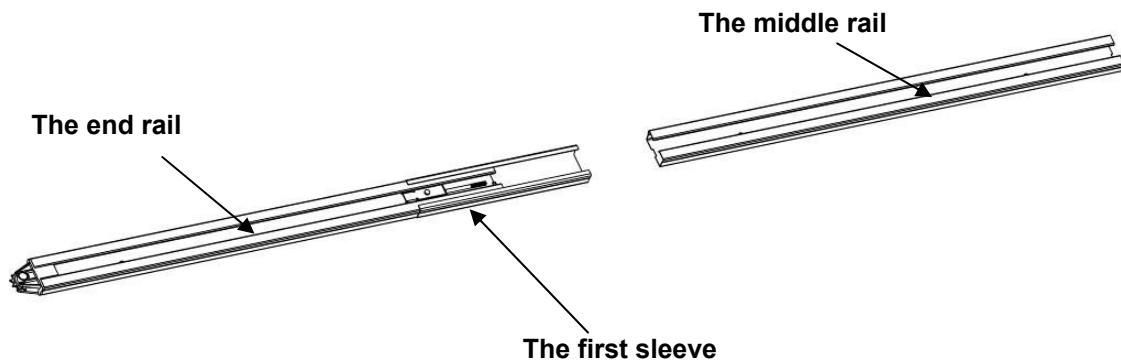

FIG.5
- As FIG.5, slide the end rail into the 1st sleeve, slide the middle rail into the 1st sleeve;